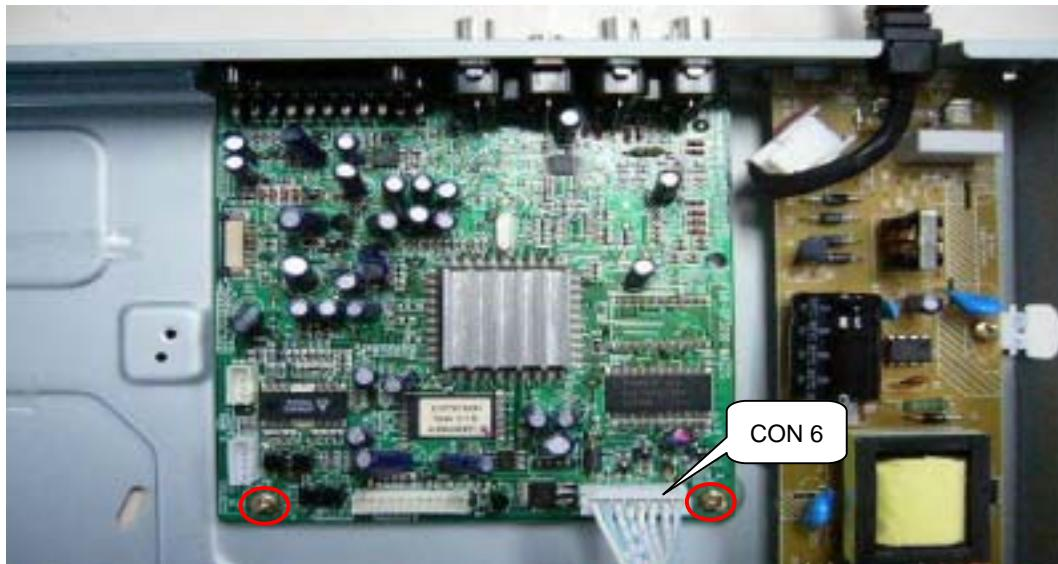

Figure 7
Step6: Dismantling Main Board, first disconnect the connector, and then remove the relative screws, (Figure 7)